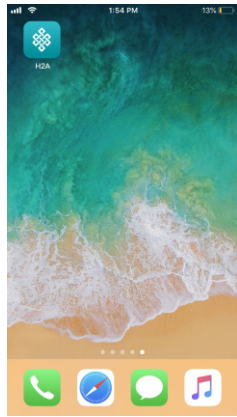

Figure 1
2. Download H2A APP from IOS APP Store or Android Google Play to your smart phone or tablet by searching "H2A". (As shown in **Figure 1**)